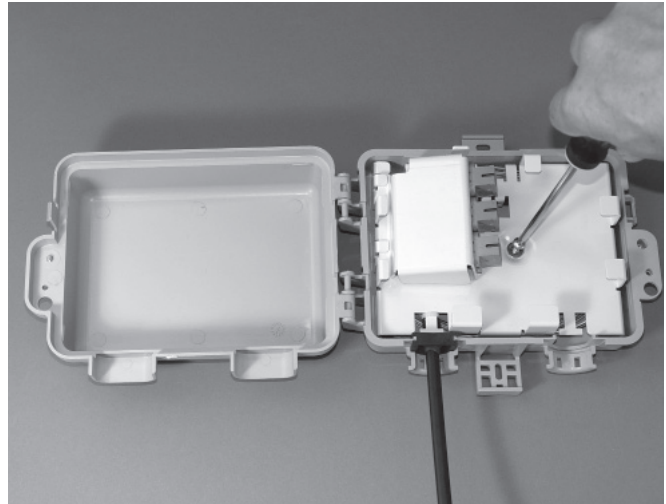

Figure 6
12. Flip metal fiber management patching/splice tray over, connector side up, and slide the grommet into the port slot (Figure 6). Secure the tray using the supplied screw.